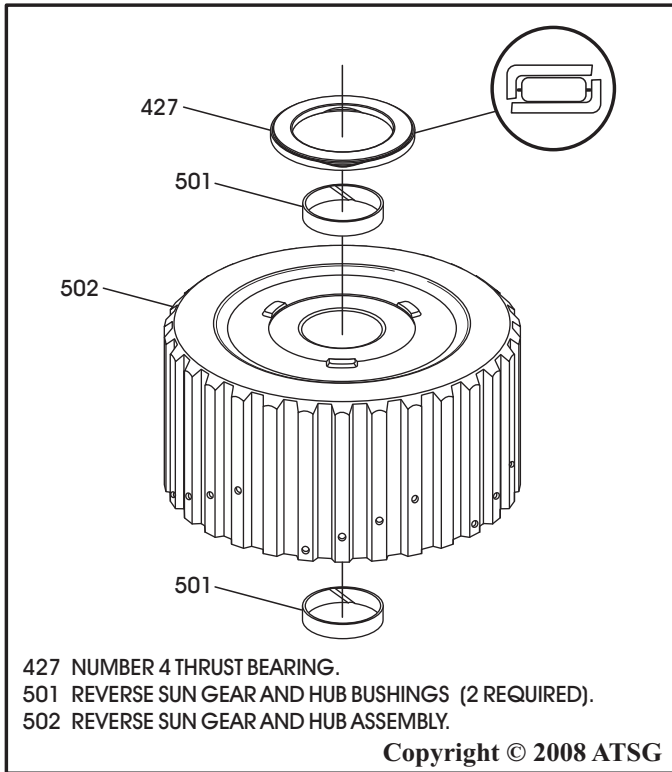

Figure 111
3. Install new bushings as necessary, as shown in Figure 111, using the proper bushing driver.
4. Install the number 4 thrust bearing, as shown in Figure 111, and retain with a small amount of Trans-Jel®.